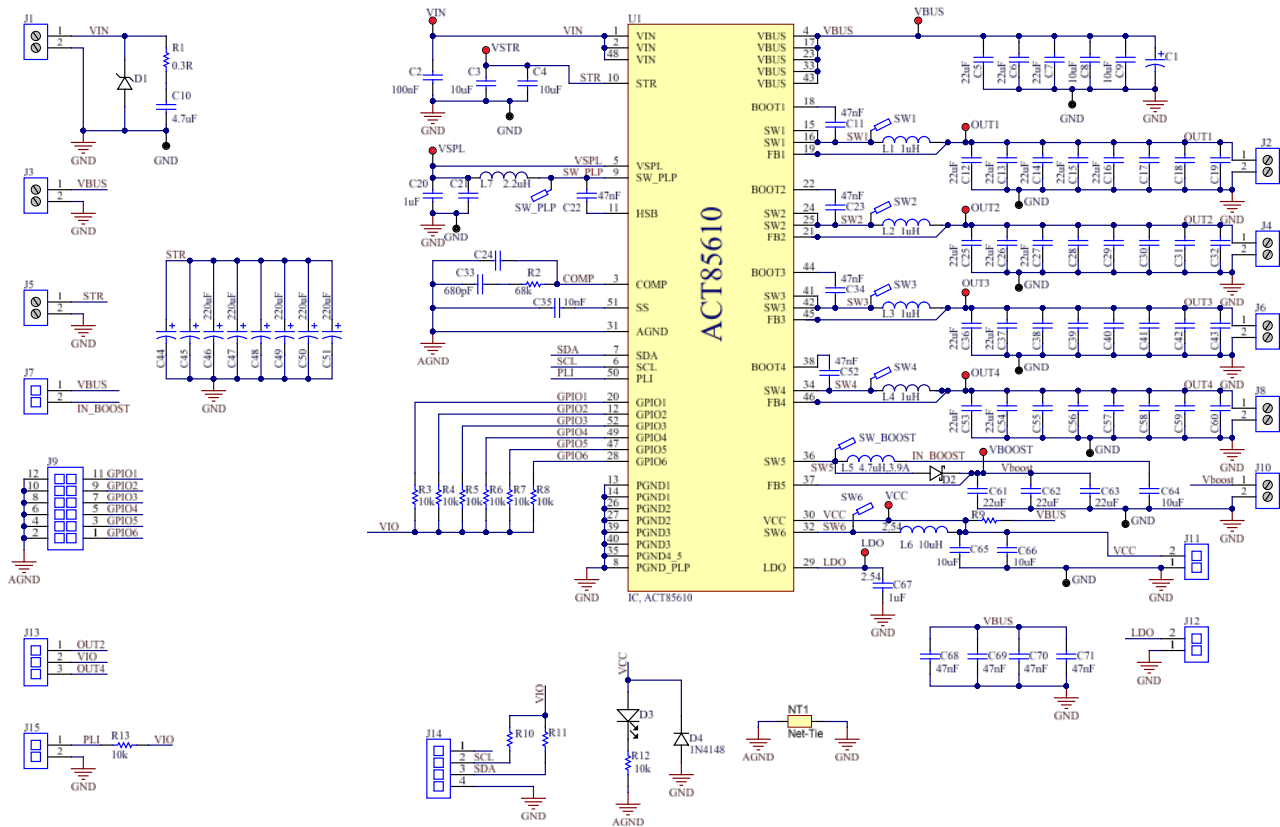

Figure 4 – ACT85610 EVK1-101 Schematic
3. Connect the USB-TO-I2C dongle to the EVK J14 connector. Refer to Figure 4 to ensure the correct polarity of the connection. As a guide, use the “Qorvo” logo or (“Active-Semi”) logo on the top of the dongle so the black wire is connected to the Dongle GND pin.